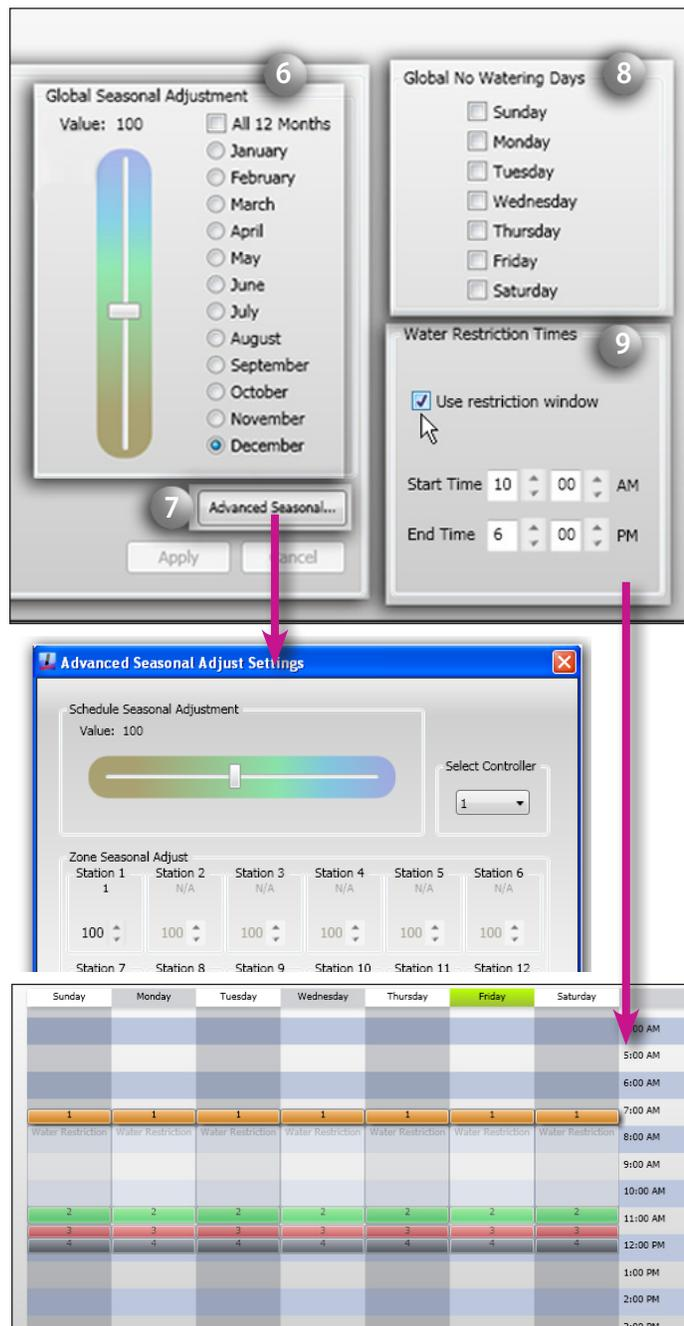

Figure 2.29
(6) Global Seasonal Adjustment is used to apply a seasonal adjustment % factor globally to any Schedule opened within the Site. A % adjustment value, ranging from 100% (unadjusted value) up to 200% or down to 10% in 5% increments, can be applied globally to all months of the year or to each month individually as preferred. For individual months, select the month's radio button, then adjust the slider to the % value as preferred. (Figure 2.29)